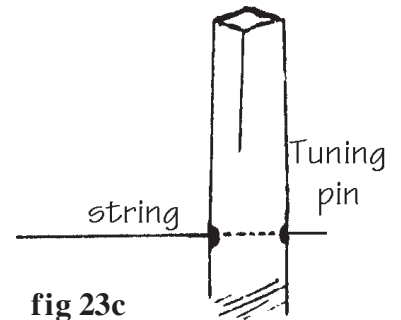

fig 23c
B) Poke the end of one string into the proper tuning pin so just a little of it shows on the other side (fig 23c).